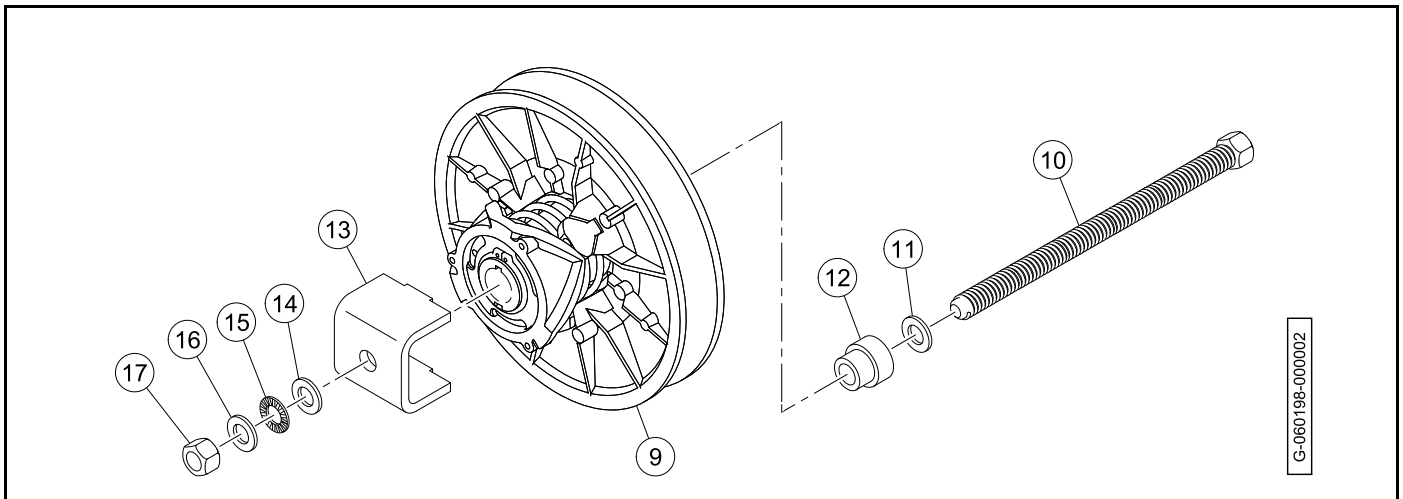

Figure 23-21 Driven Clutch Tool - Assembly
3. Place the end of the spring (6) into the hole in the moveable sheave (9).
4. Install the key (7) into the keyway of the fixed sheave shaft.
5. Holding the cam (8) in position for assembly on the shaft, install the other end of the spring into the center spring hole of the cam. Rotate the cam until the keyway is aligned with the key on the fixed sheave, and then start the cam onto the shaft approximately 1/4 to 3/8 in. (6.3 to 9.5 mm).
6. With the clutch loosely assembled, set the edge of the clutch body (9) on a clean, flat surface (**Figure 23-21, Page 23-17**).